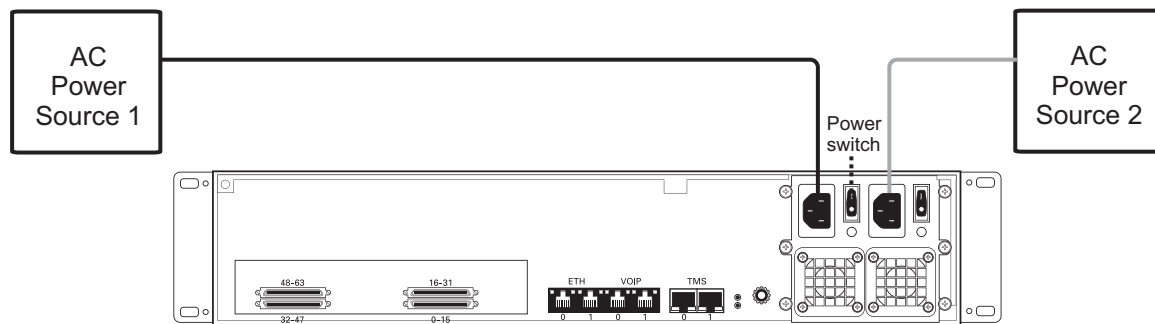

Figure 2.30 AC Power Connection
1. Connect an AC power cable between the AC connector of the 7800 Telecom Unit and an AC supply. See figure 2.30 on page 39.
Note If the 7800 Telecom Unit features a second power supply and it is not connected to an AC power source, press the green button located at the rear of the unit to disable the audible alarm. See figure 2.30 on page 39.